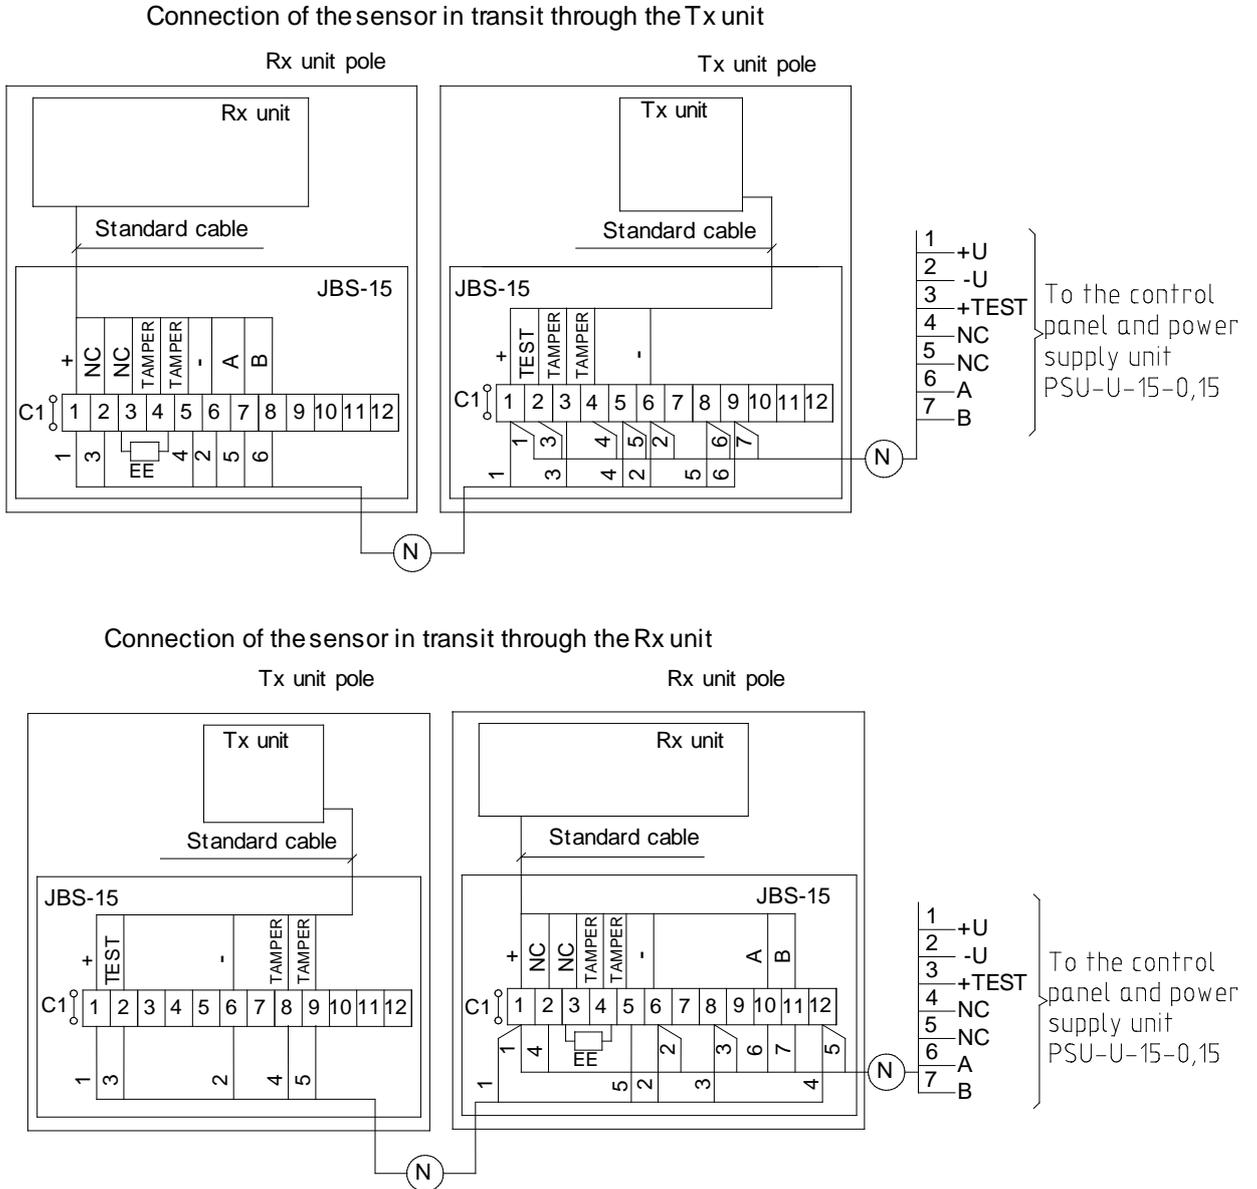

Figure 2.10 – Diagram of connection the sensor using the junction box JBS-15.
2.3.7.4 The diagram of connection the sensor using the junction box JBS-15 is given in Figure 2.10. The contacts of the TAMPER button are connected sequentially with the executive relay contacts. An additional button for applying the remote control signal to the sensor is to be installed in the guard room.